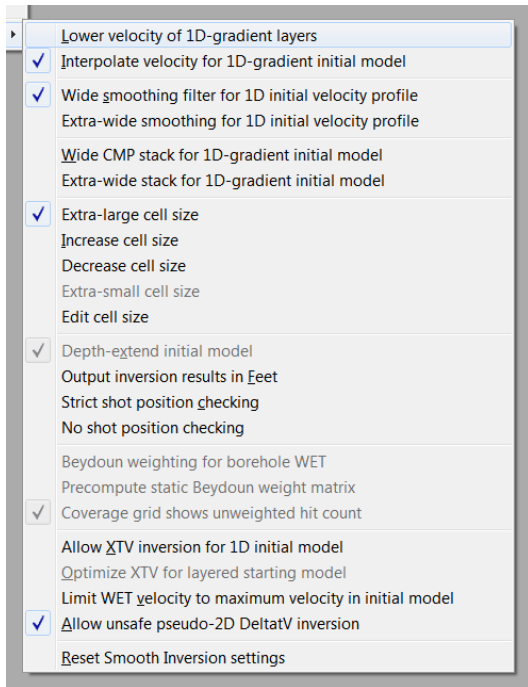

Fig. 9 : Smooth invert\Smooth inversion Settings
- Setup other settings in Smooth invert|Smooth inversion Settings as in Fig. 9